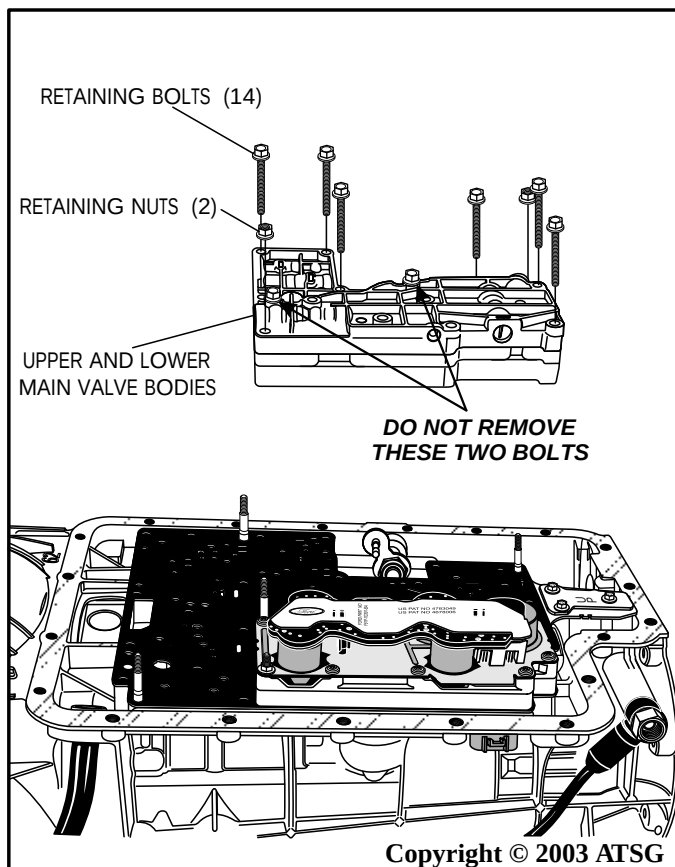

Figure 50
5. Remove two main valve body retaining nuts and the 14 bolts, as shown in Figure 50, and remove upper and lower valve bodies together as a package.
- Note:** Do not remove the two bolts holding the upper and lower valve bodies together. Refer to Figure 50.